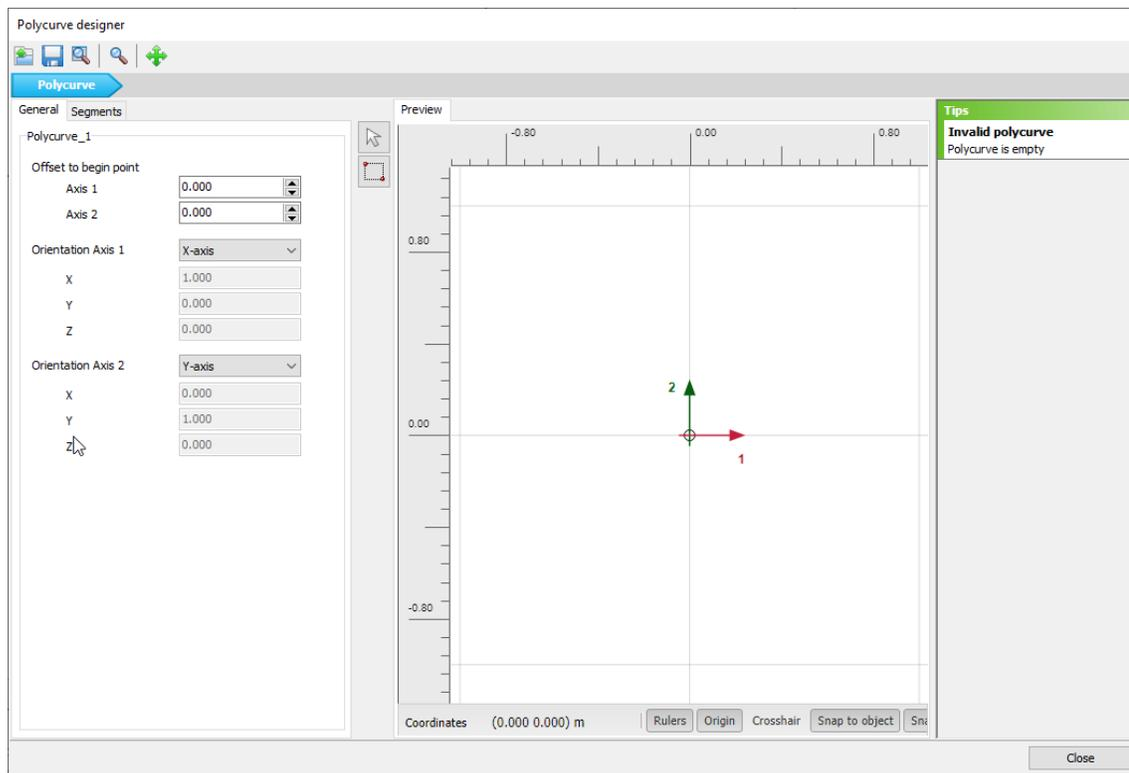

Figure 42: *General* tabsheet of the *Polycurve designer*
4. The polycurve is drawn in the xy-plane (see the Figure 42 (on page 64)). Hence the default orientation axes are valid for this example.